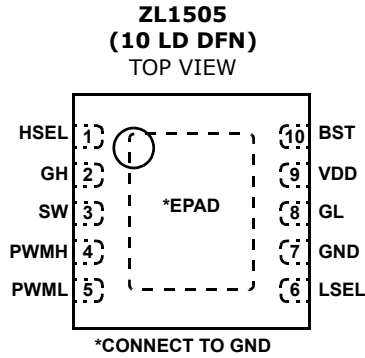

**FIGURE 2. POWER TRAIN MODULE USING ZL2004 PWM CONTROLLER**
1. For  $V_{DD}$  of 4.5V to 7.5V, the maximum  $V_{IN}$  of the ZL1505 is 22.5V to 25.5V. ZL1505 input supply voltage range ( $V_{IN}$ ) is specified in Figure 2.